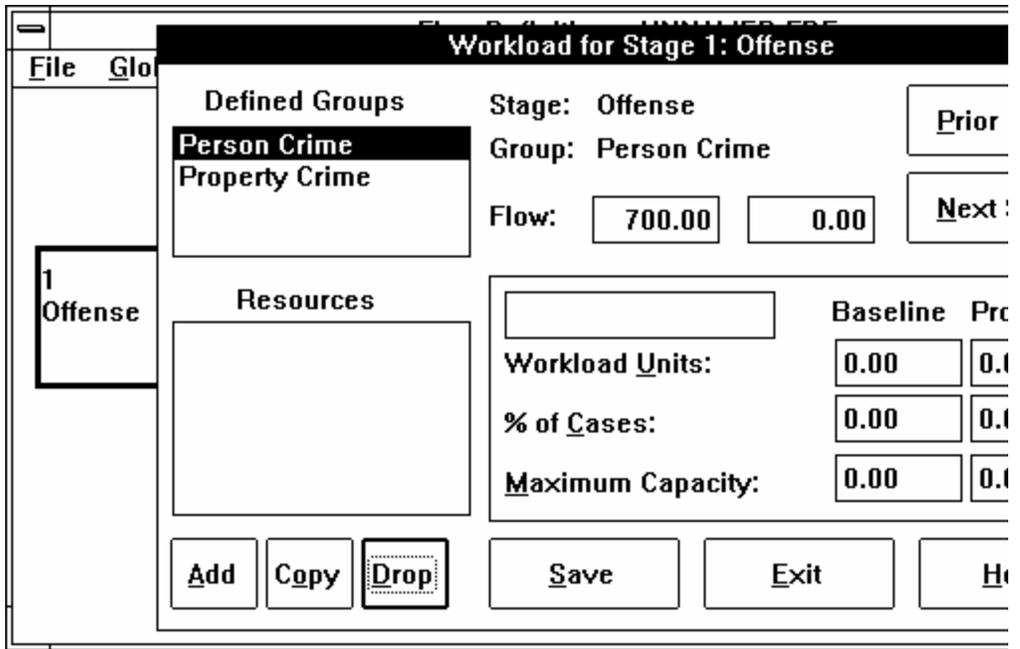

Figure 5-23. The Workload dialog box for Stage 1.
2. Click the Resources button. The Workload dialog box for Offenses will open as in Figure 5-23.